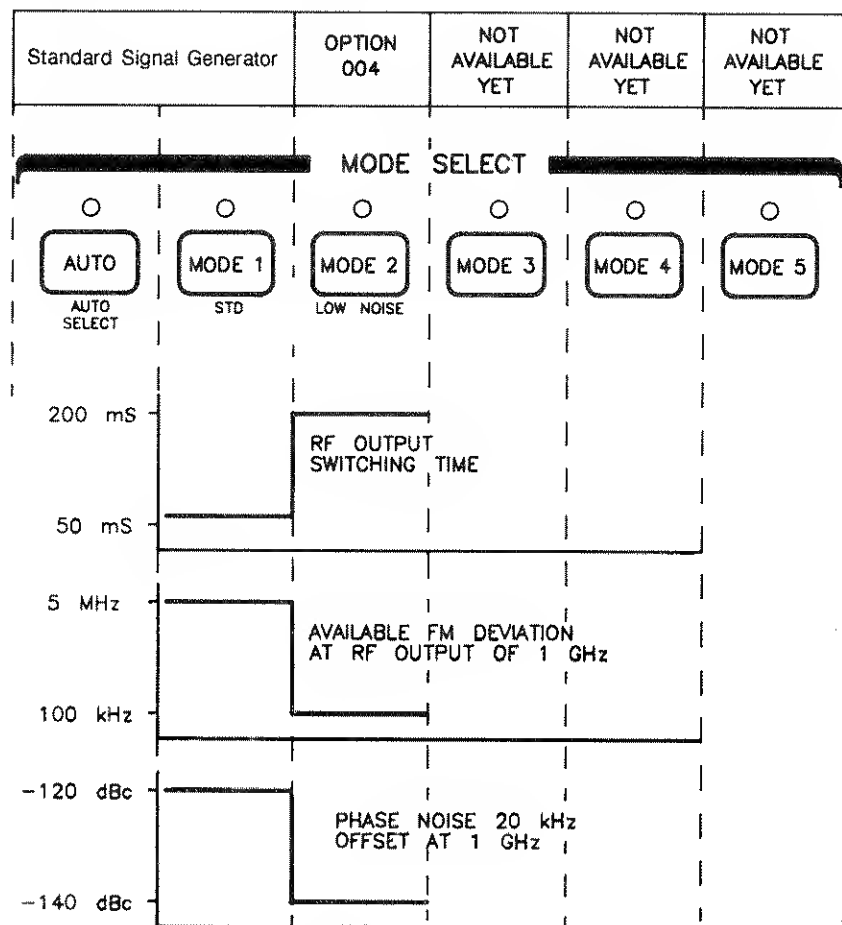

Figure 2-2. Typical Modes of Operation for RF Output of 1 GHz with FM On.
In other applications, you may want to select an RF output with faster switching or with more FM deviation. In this case, take the Signal Generator out of the Auto Select mode by pressing the Mode key of your choice. There are three basic factors to consider when you select a synthesis mode—they are (1) switching time, (2) FM deviation, and (3) phase noise. A typical comparison of these three factors for an RF output of 1 GHz is shown in figure 2-2: